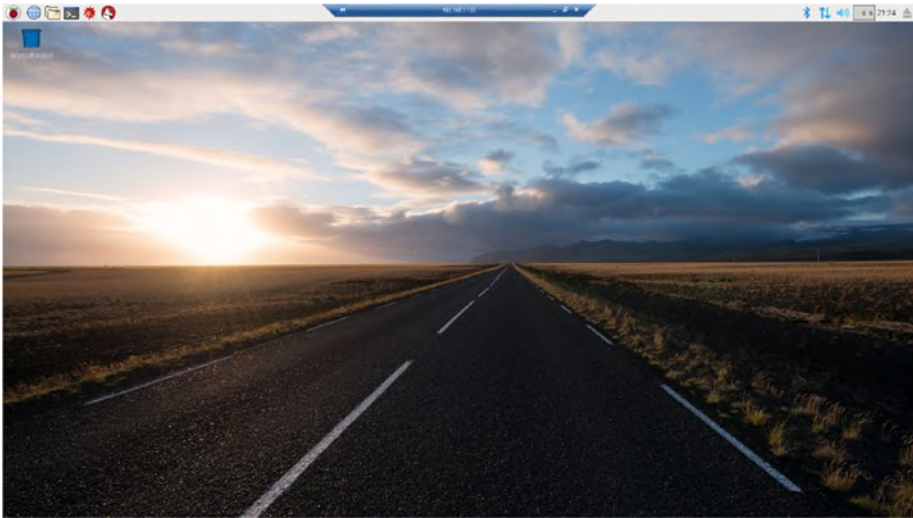

Figure 2-12. Default Raspbian desktop viewed through a remote desktop session
10. Click **OK**. This opens the desktop from your Pi (see Figure 2-12).